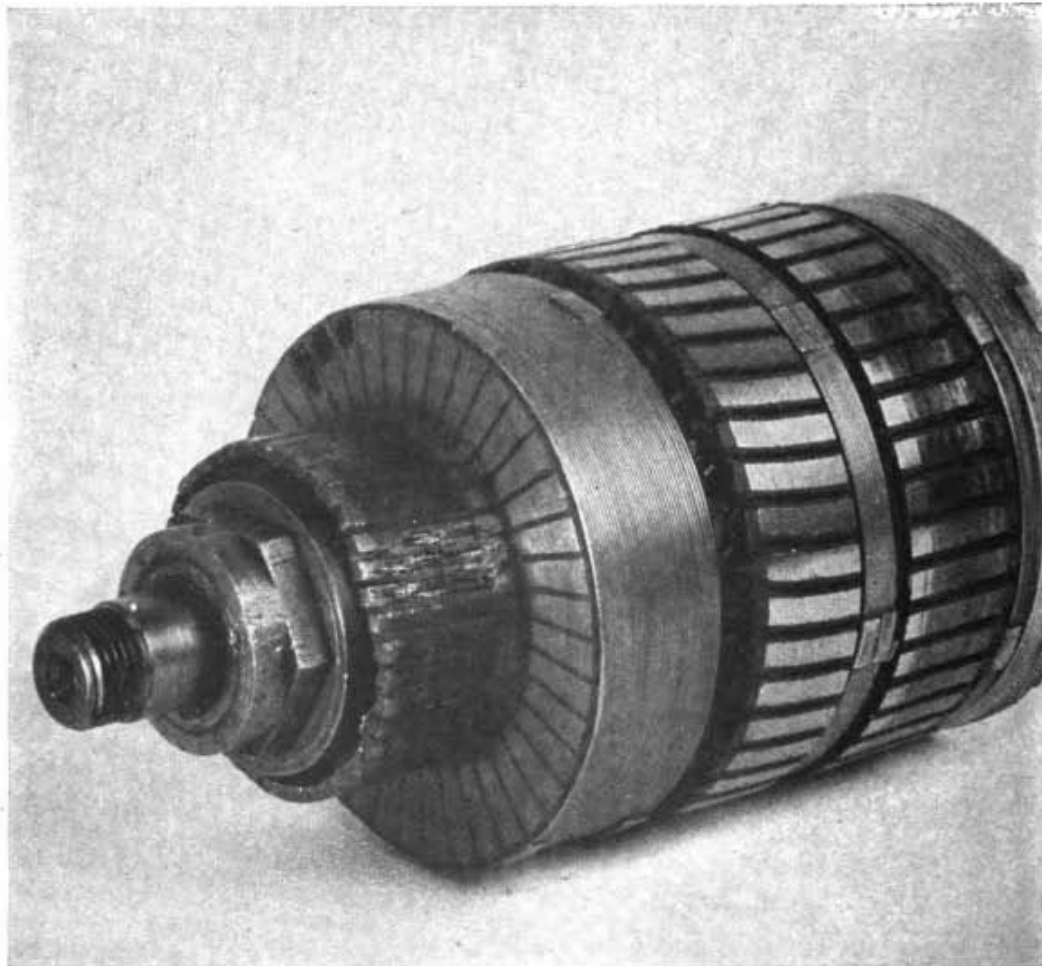

Figure 65. Burned, pitted, and out-of-round commutator.
(2) **GENERATOR.** Examine the generator for cleanliness and security of mounting. Check the generator commutator for rough, coated, pitted, worn, or eccentric surfaces. (See fig. 65.) Clean dirty or coated commutators with No. 000 sandpaper. Replace the generator if the commutator is found rough, pitted, or "out of round." An eccentric commutator may be detected by holding the pointed end of a pencil on top of the brush while the generator is operating. If the pencil vibrates excessively, replace the generator.